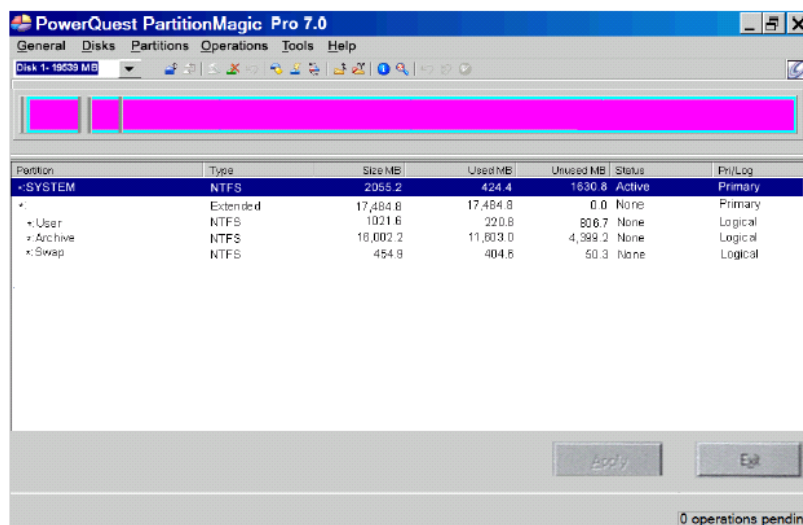

Figure 8-125 Partition Magic Screen
- 10) With the *System* partition selected (highlighted, as shown in Figure 8-125), delete the partition by selecting the **Delete** Tool under the *Operations* menu, as shown in Figure 8-126 below: